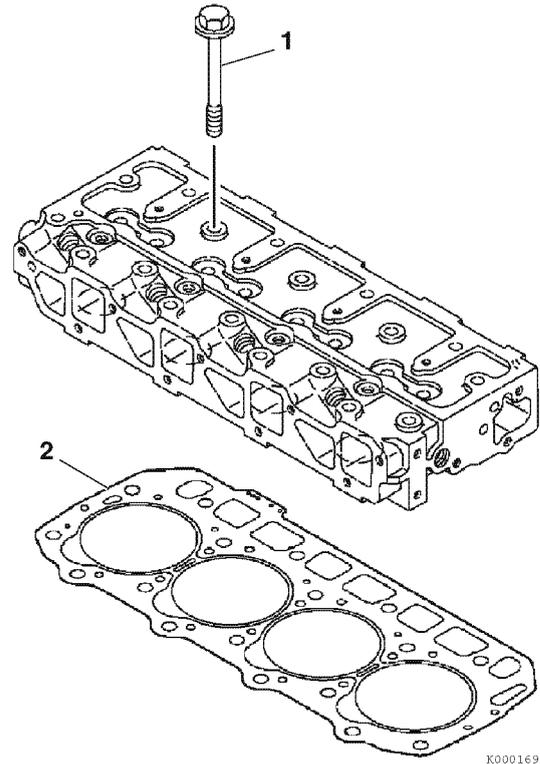

Figure 6-35
1. Carefully clean both the combustion surface of the cylinder head and the top surface of the cylinder block. Then place a new cylinder head gasket (2, **Figure 6-35**) on the cylinder block.
3. Lightly oil the threads of the cylinder head bolts (1, **Figure 6-35**). Tighten the bolts to the specified torque in two steps as shown in the chart below. Tighten in the sequence shown in (**Figure 6-36**). See *Special Torque Chart* on page 6-16 for specification.